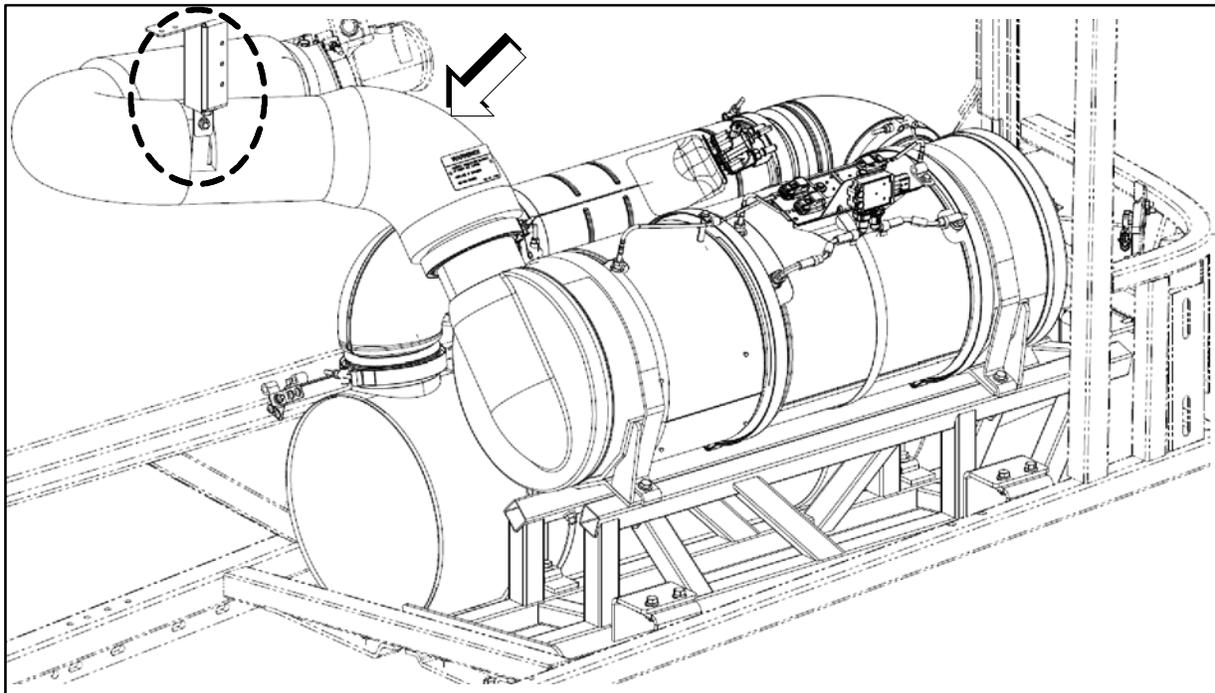

Figure 1.
3. Open the engine compartment doors and locate the exhaust system bellows pipe (refer to Figure 1).
5. Locate and remove the existing two (2) capscrews and locknuts from the pipe assembly bracket where it attaches to the coach frame (refer to Figure 1). Remove and retain the mounting hardware to be re-installed at a later step in this procedure. Discard the existing pipe assembly bracket.